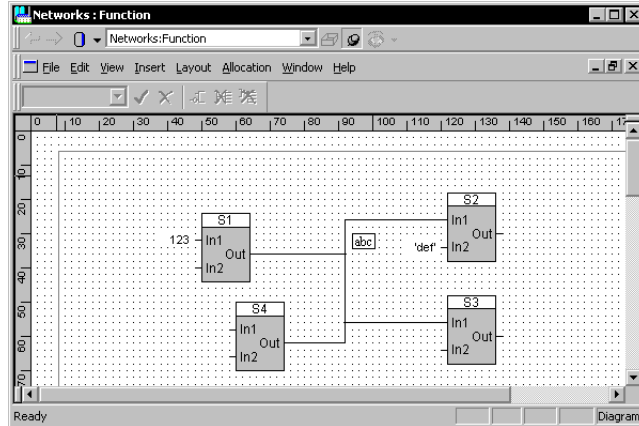

Figure 255. $M : N$ Network ($M = 2$, $N = 2$)
- In Figure 255, S4:Out was connected to variable abc. A $M : N$ network, $M = 2$, $N = 2$, gets automatically created.